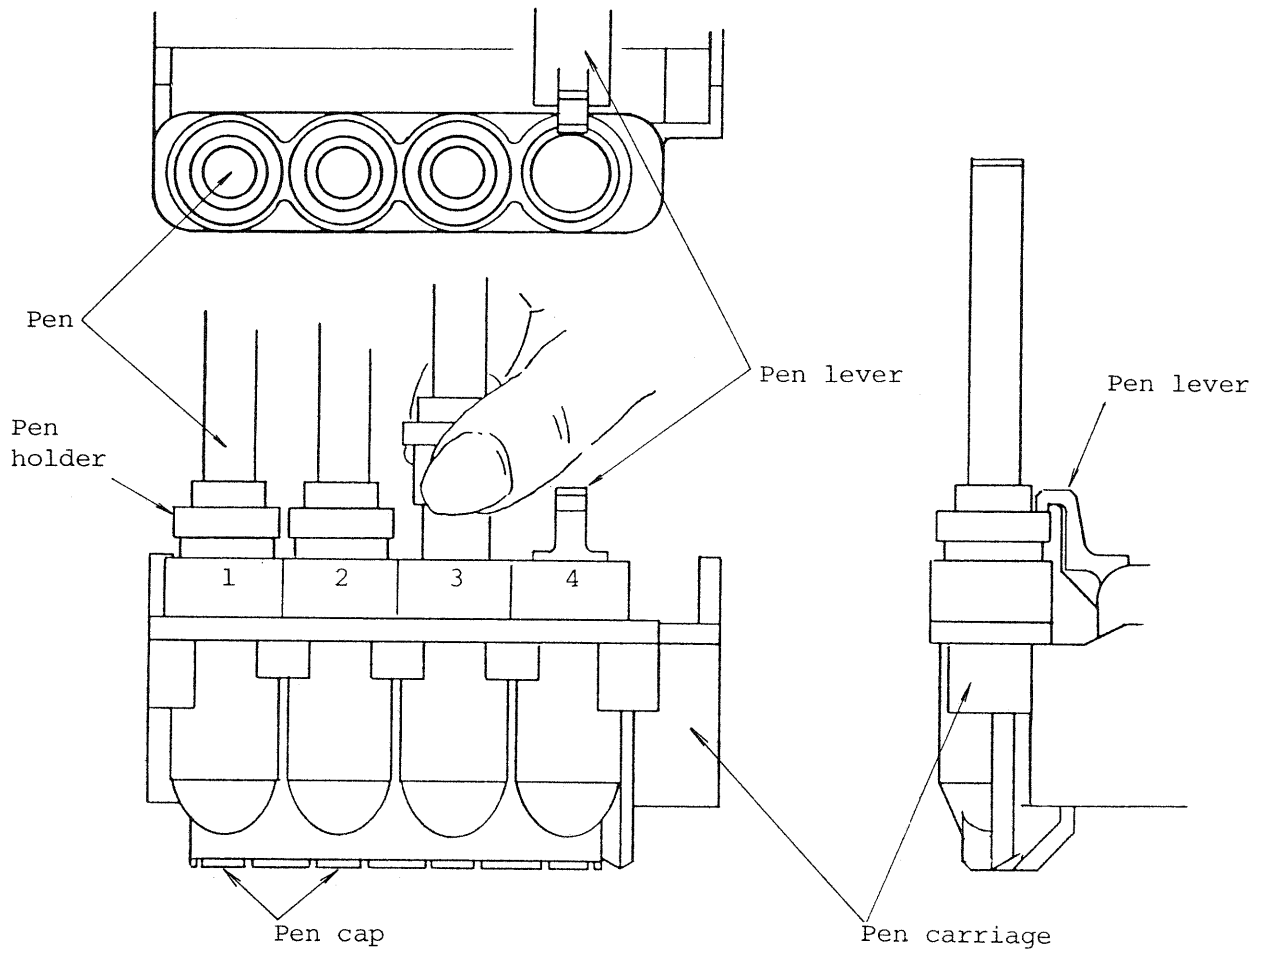

Fig. 4-1 Pen Setting
- (4) Take off the pen caps and insert the pens into the desired position on the carriage. (Refer to Fig. 4-1.)
- (5) Before removing the pen, turn OFF the power switch.